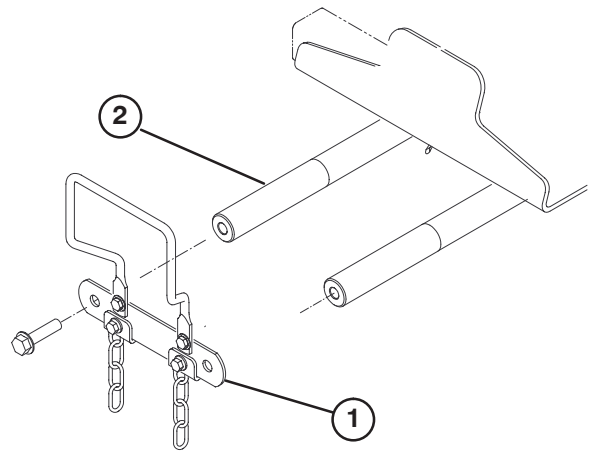

Figure 11
1. Remove (2) capscrews securing lift arm pivot shaft link to lift arm pivot shafts. Remove and retain pivot shaft link and capscrews (Fig. 11).